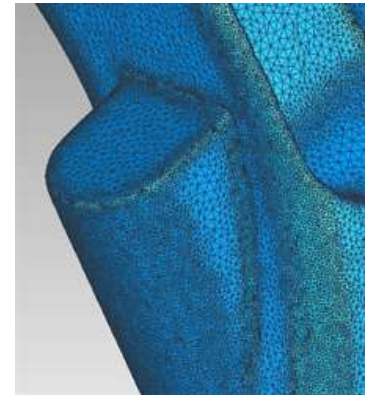

Figure 104
- Click **Apply**, the mesh will redraw similar to **Figure 104**.